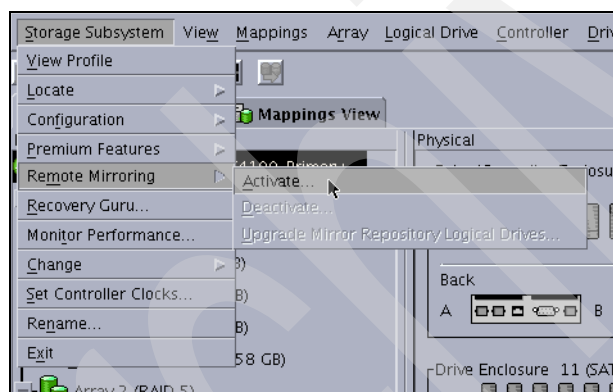

Figure 13-21 Activating Remote Mirroring
1. Select the **Storage Subsystem** → **Remote Mirroring** → **Activate** drop-down menu option, or select **Remote Mirroring** → **Activate** from the context menu. Refer to Figure 13-21.